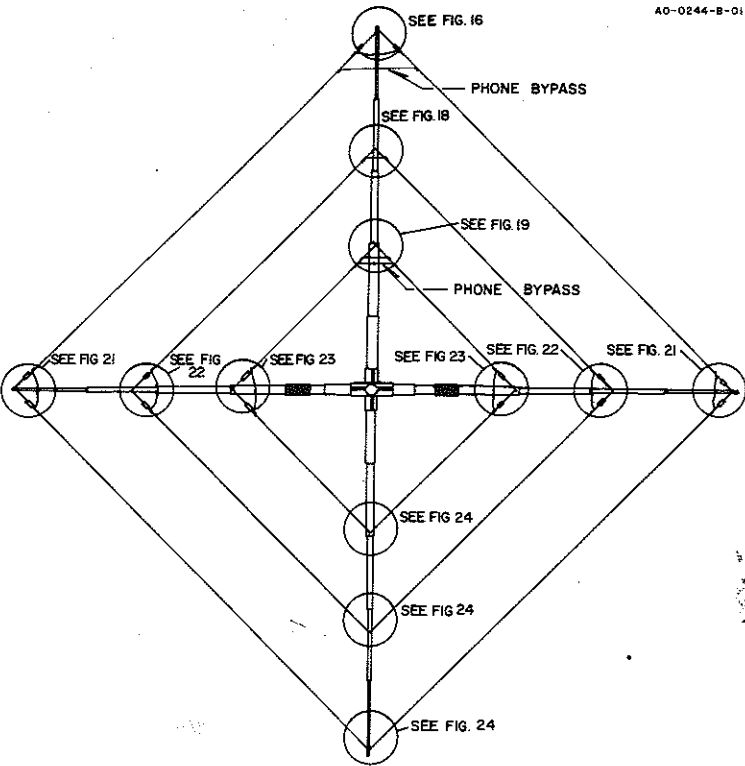
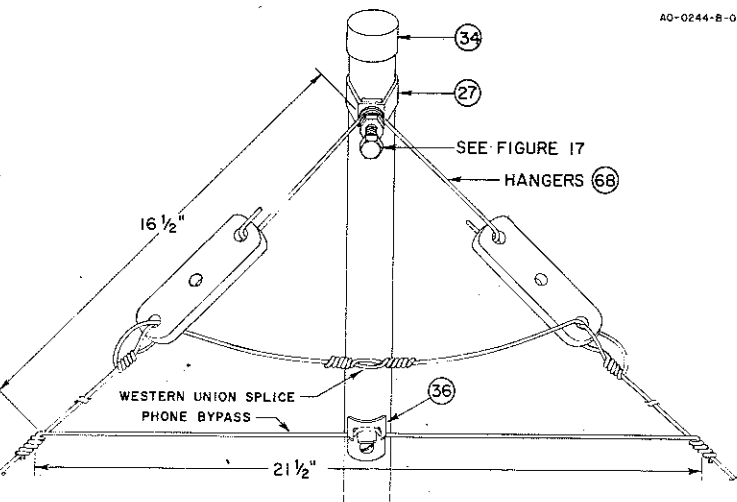
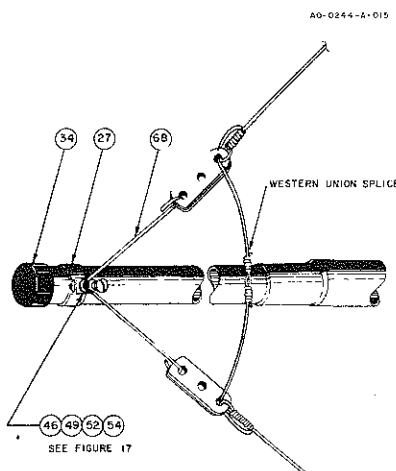
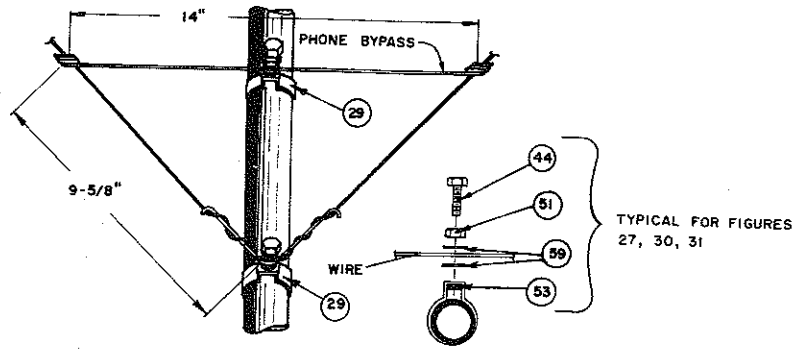

Figure 15. Driven Element Assembled
Figure 16. 20 Meter Connection to Top Spreader Arm of Driven Element
Figure 21. Horizontal DE Spreader Arm-to-Element Connection
Figure 31. 10 Meter Wire Connection to Bottom Reflector Spreader Arm
3. Attach all jumper wires, i.e. phone bypass, driven element bypass etc. as shown in the detailed drawings Figure 16 through Figure 34.
() Mount the element insulator hangers, item 68, on the element tubes. The locations for the driven element spreader arms are noted in Figure 15. Their typical mounting is shown in Figure 16, 17, 21, 22, and 23. Refer to Figure 34 for more detail.
() Beginning with the 20 meter wire on the left spreader insulator, Figure 21, wrap and tie the wire through the insulator leaving enough wire for splicing. The loop length with splice must be 9". Run the wire through the insulator on the top spreader arm, Figure 16, and connect it to the insulator on the right spreader arm as shown in Figure 21, only reversed. Your lengths must correspond to the dimensions shown in Figure 14.
() Use the same procedure on the bottom half of the 10 Meter driven element wire and splice the two halves together with a Western Union Splice (Figure 21), making sure the splicing loop length is 9". Clip off all excess wire when the antenna is completely strung. Use this procedure at all the remaining points within the antenna.
For operation on the phone frequencies, the phone by-pass wires should be installed exactly as shown in Figures 16 and 19 and in Figures 31, 32 and 33.